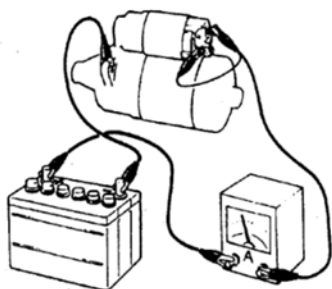

Figure 6.2-9
2. Detention test: Under the status that the core is stretched outward, connect the lead as shown in Figure 6.2-9, and then disassemble the negative lead from binding post M. At this time, check if the core is detained outside. If the core is pushed inward, replace the electromagnetic switch.